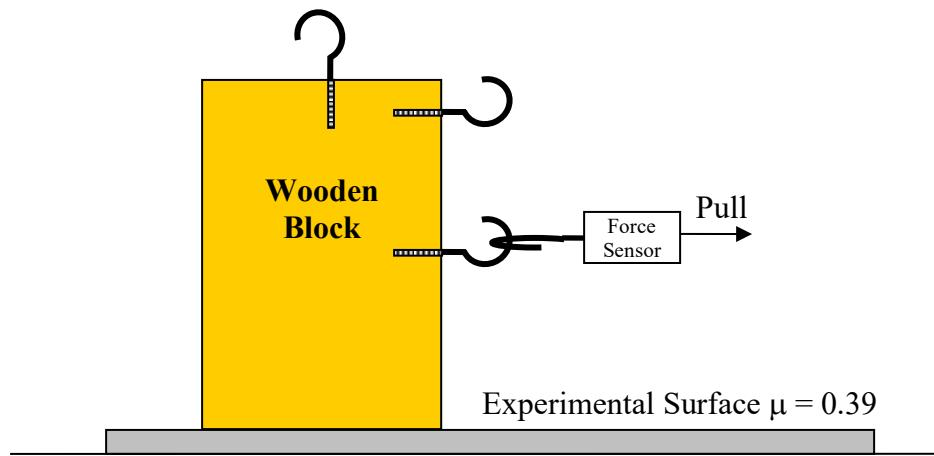

Figure 1-4: Experimental Setup for Sliding
1. Attach the force sensor to the top hook on the block (Fig. 1-4).